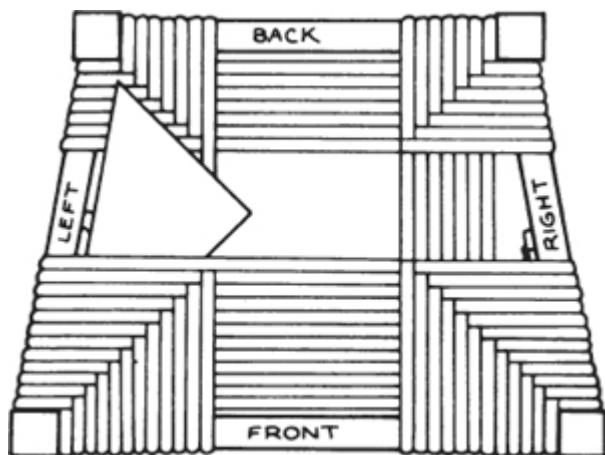

fig. 18
21. When you have about five inches of space left on the side rails, cut cardboard to the side pattern shapes and insert it into the space between the top and bottom weaves. See Figure 18. This will help maintain the shape of the seat. You may also insert some newspaper stuffing at this time if the rush strands are too loose. Do not overstuff the chair or it will become uncomfortable to sit on.